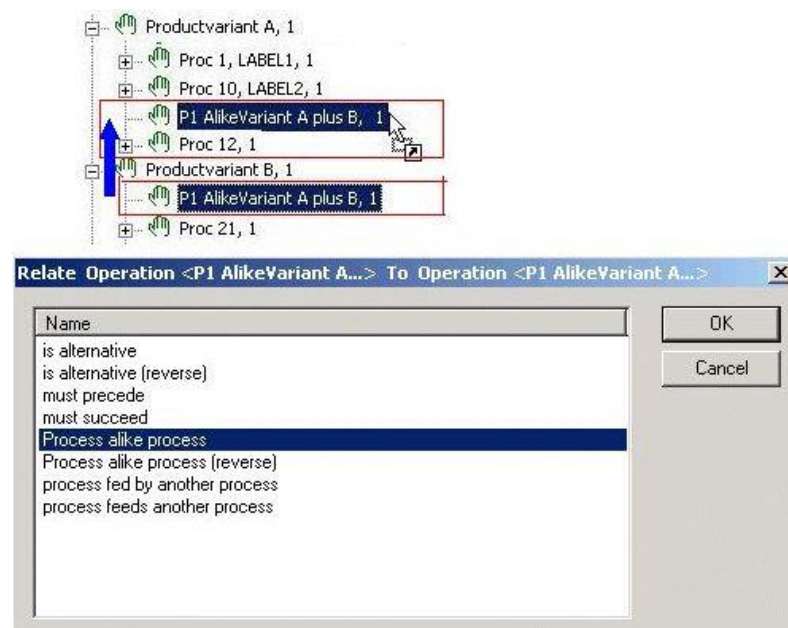

Figure 212: Marking Processes of the same Type via Relation
- 4) Click the **OK** button to confirm. Both processes are marked as processes of the same type. Please refer to the Figure 212.